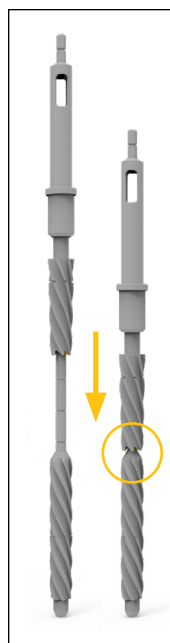

Figure 27
* If the final IM reamer is 16-18mm in diameter, an additional 25mm of reaming is required, resulting in a 200mm ream depth. This is required to avoid interference between the Revision Boss Reamer and the IM reamer cutting flutes (**Figure 27**).